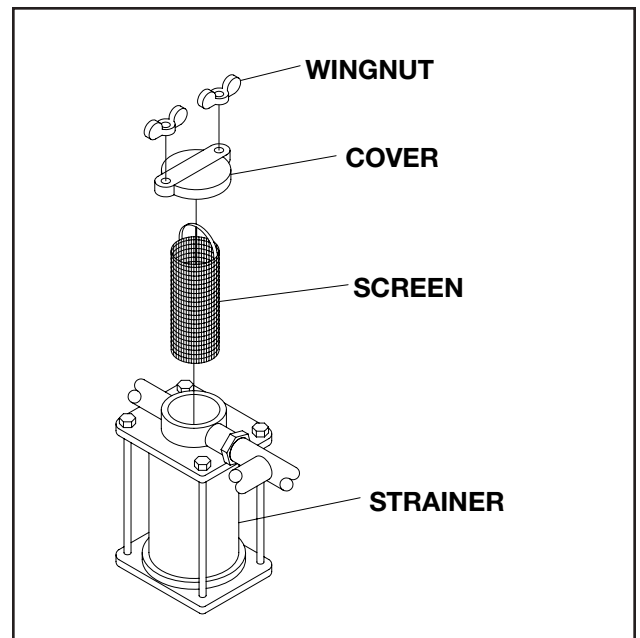

FIGURE 12.1 SEA STRAINER
- Inspect and clean sea strainers regularly. The frequency of cleaning will vary depending on the amount of use and local conditions. To clean the strainer, close the seacock and unscrew the wing nuts on top of the strainer housing (**Figure 12.1**). Remove screen and wash. After replacing the screen, replace and tighten the wing nuts. Open the seacock and check for leaks.